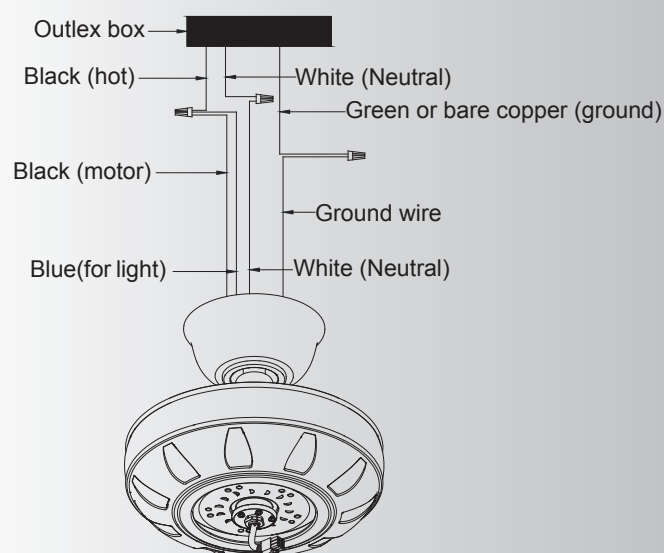

Fig. 12
Step 1. Connect the fan supply BLACK wire and fan light supply BLUE wire to the BLACK household supply wire as shown in Fig. 12.
Step 2. Connect the fan neutral WHITE wire to the household neutral WHITE wire as shown in Fig. 12.
Step 3. Connect GROUND (GREEN) wires from mounting bracket and downrod ball, to GROUND (GREEN) or BARE (COPPER) from house. (Fig. 12)